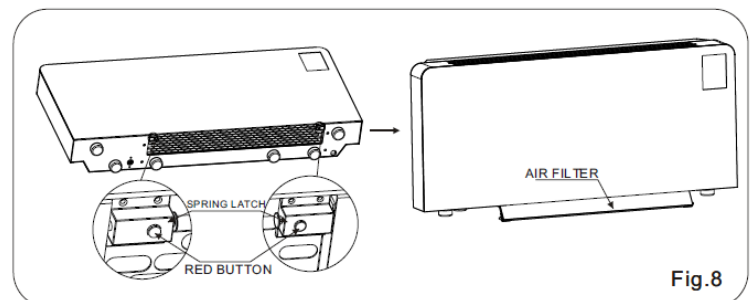

Fig.8
- 1) Press the two red buttons and drag it down slowly (Fig 8)